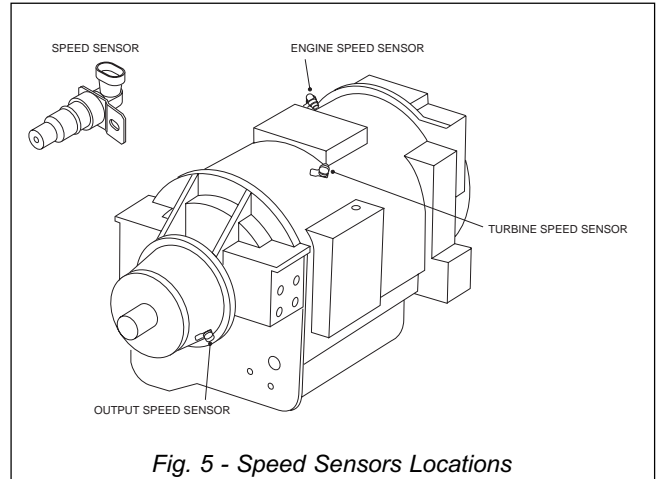

Fig. 5 - Speed Sensors Locations
**Speed Sensors** - 3 off speed sensors (Fig. 5); Input, Turbine and Output Speed, provide information to the ECU. The input speed signal is generated by the gear teeth on the top PTO gear. The turbine speed signal is generated by the serrations on the tone wheel. The output speed sensor signal is generated by a toothed member attached to the output shaft. The speed ratios between the various speed sensors allow the ECU to determine if the transmission is in the selected range. Hydraulic problems are detected by comparing the speed sensor information for the current range to that ranges speed sensor information programmed in the ECU memory.
**Converter Mode Light** - Illuminates when the transmission is in torque converter drive. It goes 'Off' when Lockup is engaged. In order to avoid unnecessary waste of fuel, if traffic or other road conditions permit, the operator should modify throttle position, or gear held, to achieve a steady road speed with the torque converter lockup engaged (light 'Off'). The Lockup relay in the interface box (Fig. 5) is also activated by the 20 bar (290 psi) pressure switch on the foot brake pedal. When this switch is activated the converter in light will be illuminated due to the transmission dropping out of converter lock up, avoiding engine stall.